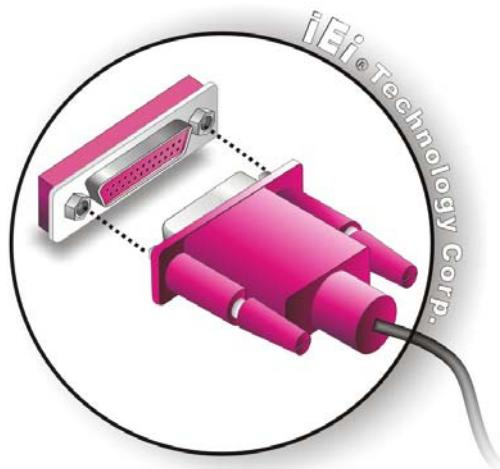

Figure 4-20: Connect the LPT Device
Step 5: Connect LPT device. Once the LPT interface connector is connected to the chassis, the LPT device can be connected to the LPT interface connector. See Figure 4-20